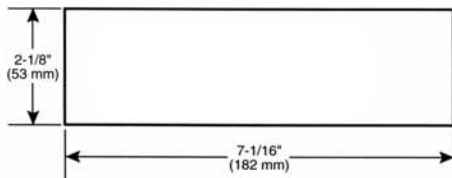

Figure 25. Opening Required.
3. The RTA-33 is a standard DIN-E chassis, requiring an opening of 2-1/8 inches (53 mm) x 7-1/16 inches (182 mm), as shown in Figure 25.